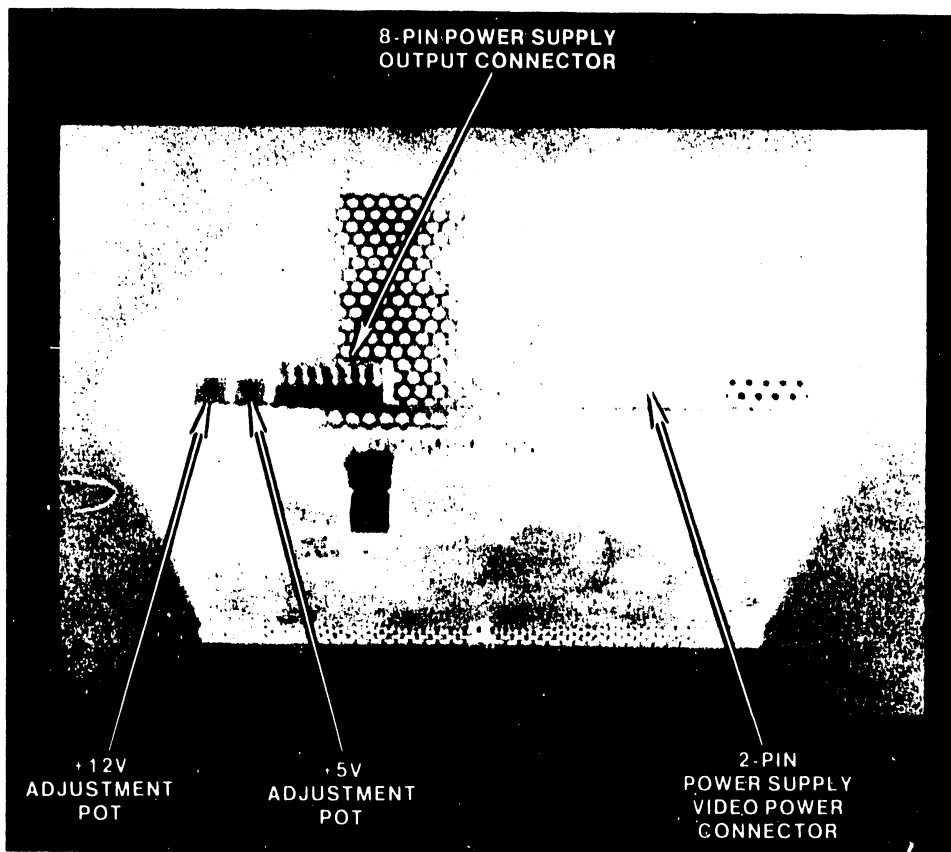
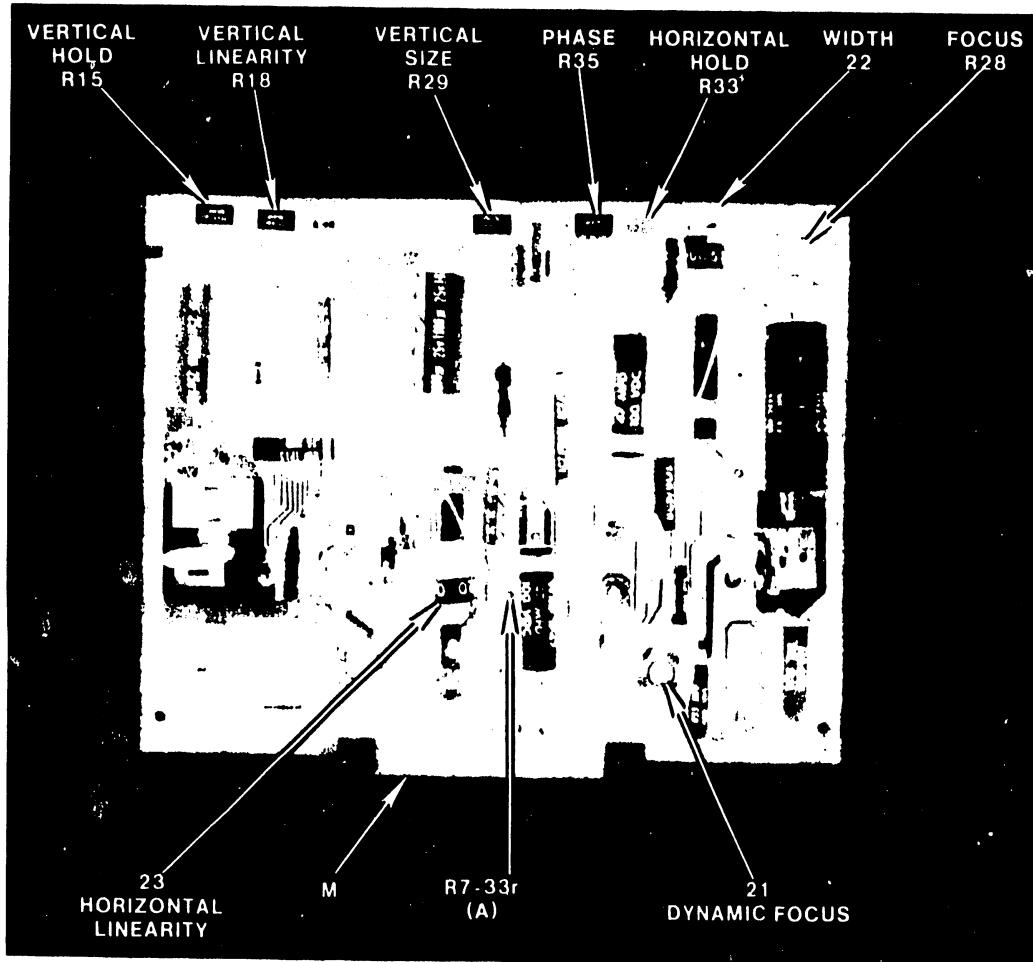

FIGURE 6-1 SWITCHING POWER SUPPLY VOLTAGE ADJUSTMENTS
FIGURE 6-2 PCB 7456 CRT DISPLAY ADJUSTMENTS
- d. Using a digital voltmeter, check the pin 16 on the 25-pin RS-232 connector for +5v. Adjust the switching power supply for +5v as required.(figure 6-1)
- e. Using a digital voltmeter, check the pin 19 on the 25-pin RS-232 connector for +12v. Adjust the switching power supply for +12v as required.(figure 6-1)
- a. Adjust the +12v regulated voltage to $+12v \pm 0.1v$ on the power supply (figure 6-1). Use a DVM to check test point A on PCB 210-7456, with pin D, E, or F on the board and L1-1 as $\pm 0v$ ground references (figure 6-2).
- b. Adjust the Dynamic Focus Coil (Z1) to register an amplitude of 300v ac peak-to-peak on an oscilloscope, using pin M as a test point (figure 6-2).
6.2.3 PCB 7456 VIDEO DISPLAY ALIGNMENT PROCEDURE (figure 6-2)